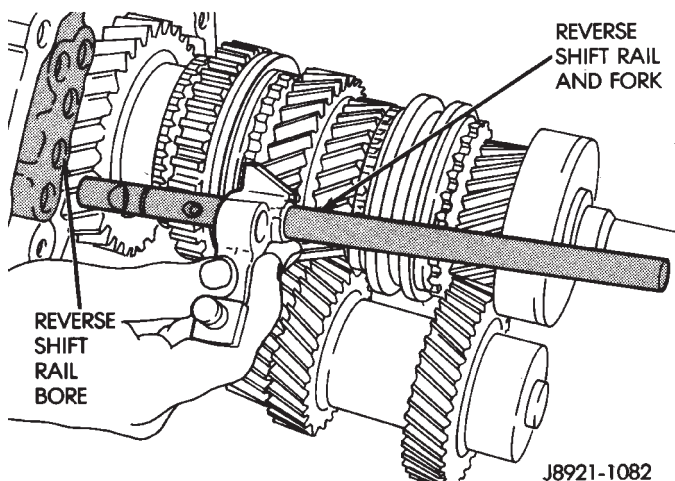

Fig. 83 Install Reverse Shift Rail
(11) Install the reverse shift rail in the intermediate plate (Fig. 83).